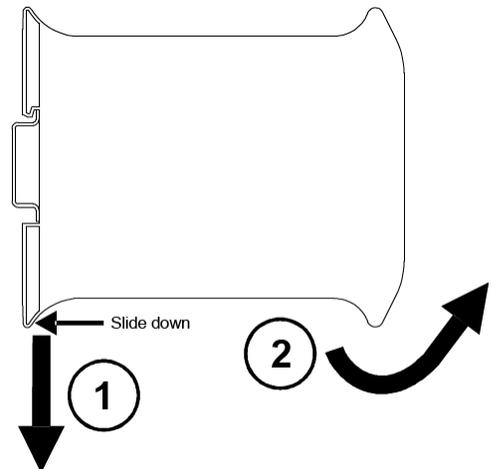

Figure 2-2: DIN rail removal
| Figure 2-2: DIN rail removal.....  | 9  |
To remove the EGCP2-GCP-LSIM from the DIN rail, use a screw driver as a lever by inserting it in the small slot of the red hook and push the red hook downwards (1). Then remove the module from the rail by raising the bottom front edge of the enclosure (2) (refer to Figure 2-2).